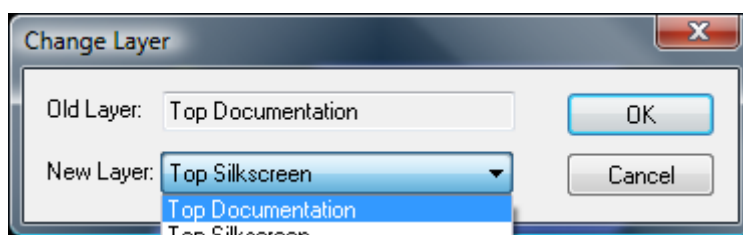

Figure 6-28: Library Creation – Change Layer
37. The outline must be added on the Top silk layer as shown in Figure 6-28. For adding the body outline, while drawing, right-click and select “Change Layer” (or press <L>) and select “Top Silk”.